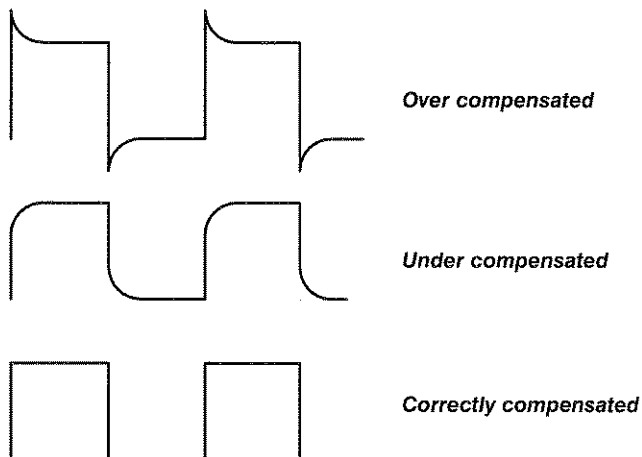

Figure 1-3: Checking Probe Compensation
- Step 6:** Check the waveform against Figure 1-3 to see if the probe is correctly compensated.